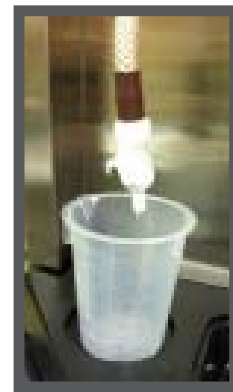

Figure 11-8 Calibration Beaker
2. Select a syrup flavor by pushing the proper button on the front of the freezer. Disconnect that mix chamber syrup tube from the front panel connector by pushing the metal clip in. Attach the coupling insert (see figure 11-7) to the fitting by pushing the mating end into the panel connector until it clicks. Place the barb end of the coupling insert into the beaker as shown in figure 11-8.